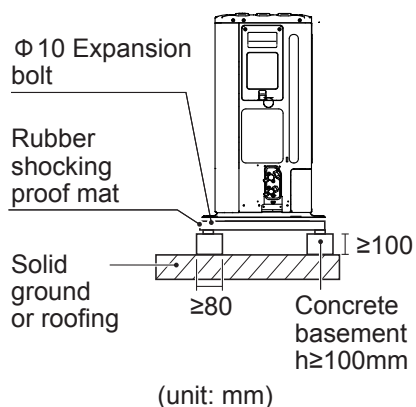

Fig: 6-3
- If water does not easily drain from the unit, mount the unit on a foundation of concrete blocks, etc. (the height of the foundation should be about 100 mm. (in Fig:6-3))